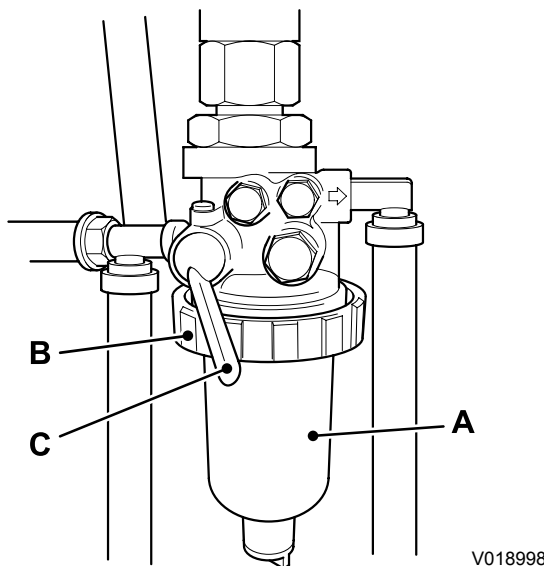

Fig 20.
- 4 Unscrew the collar **B** and remove the filter and sediment bowl from the filter head. ⇒ *Fig 20*. \(□ 3-39\)